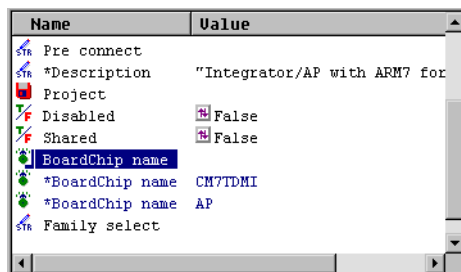

Figure 3-21 The new RDI Target connection
13. Click on **CM7TDMI** to select the ARM7TDMI core module description. The Connection Properties window now shows two BoardChip_name settings, shown in Figure 3-21.